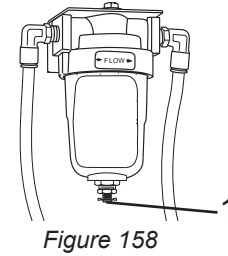

Figure 158
1. Locate the drain fitting (Figure 158, Item 1) on the bottom of the coalescing filter.